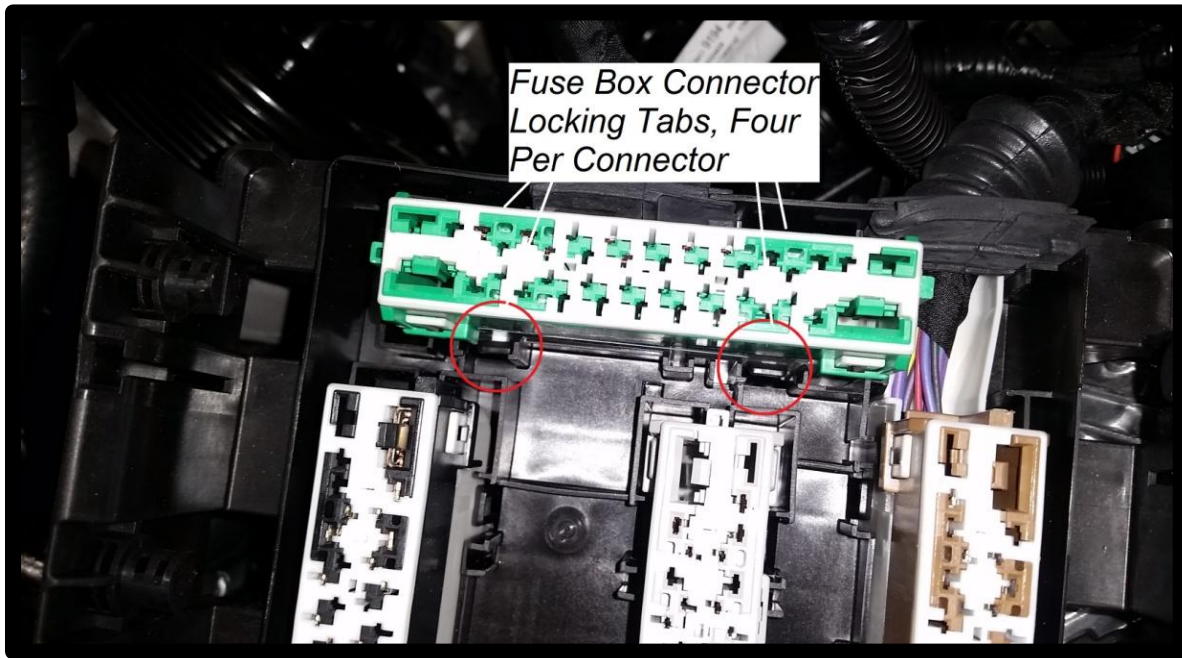

Figure 13: Removing Fuse Box Connectors
14. Remove the four fuse box connectors by using a long screwdriver to gently pry the release tabs open and pulling up on the connector, take note of the location of each connector as they have to be installed in the same positions later, see Figure 13.